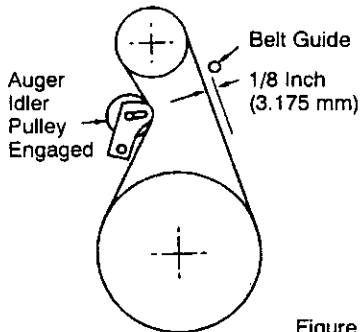

Figure 31
4. Measure the distance between the **belt guide** and **auger drive belt**. The **correct distance** is 1/8 inch (3.175 mm). See Figure 31.